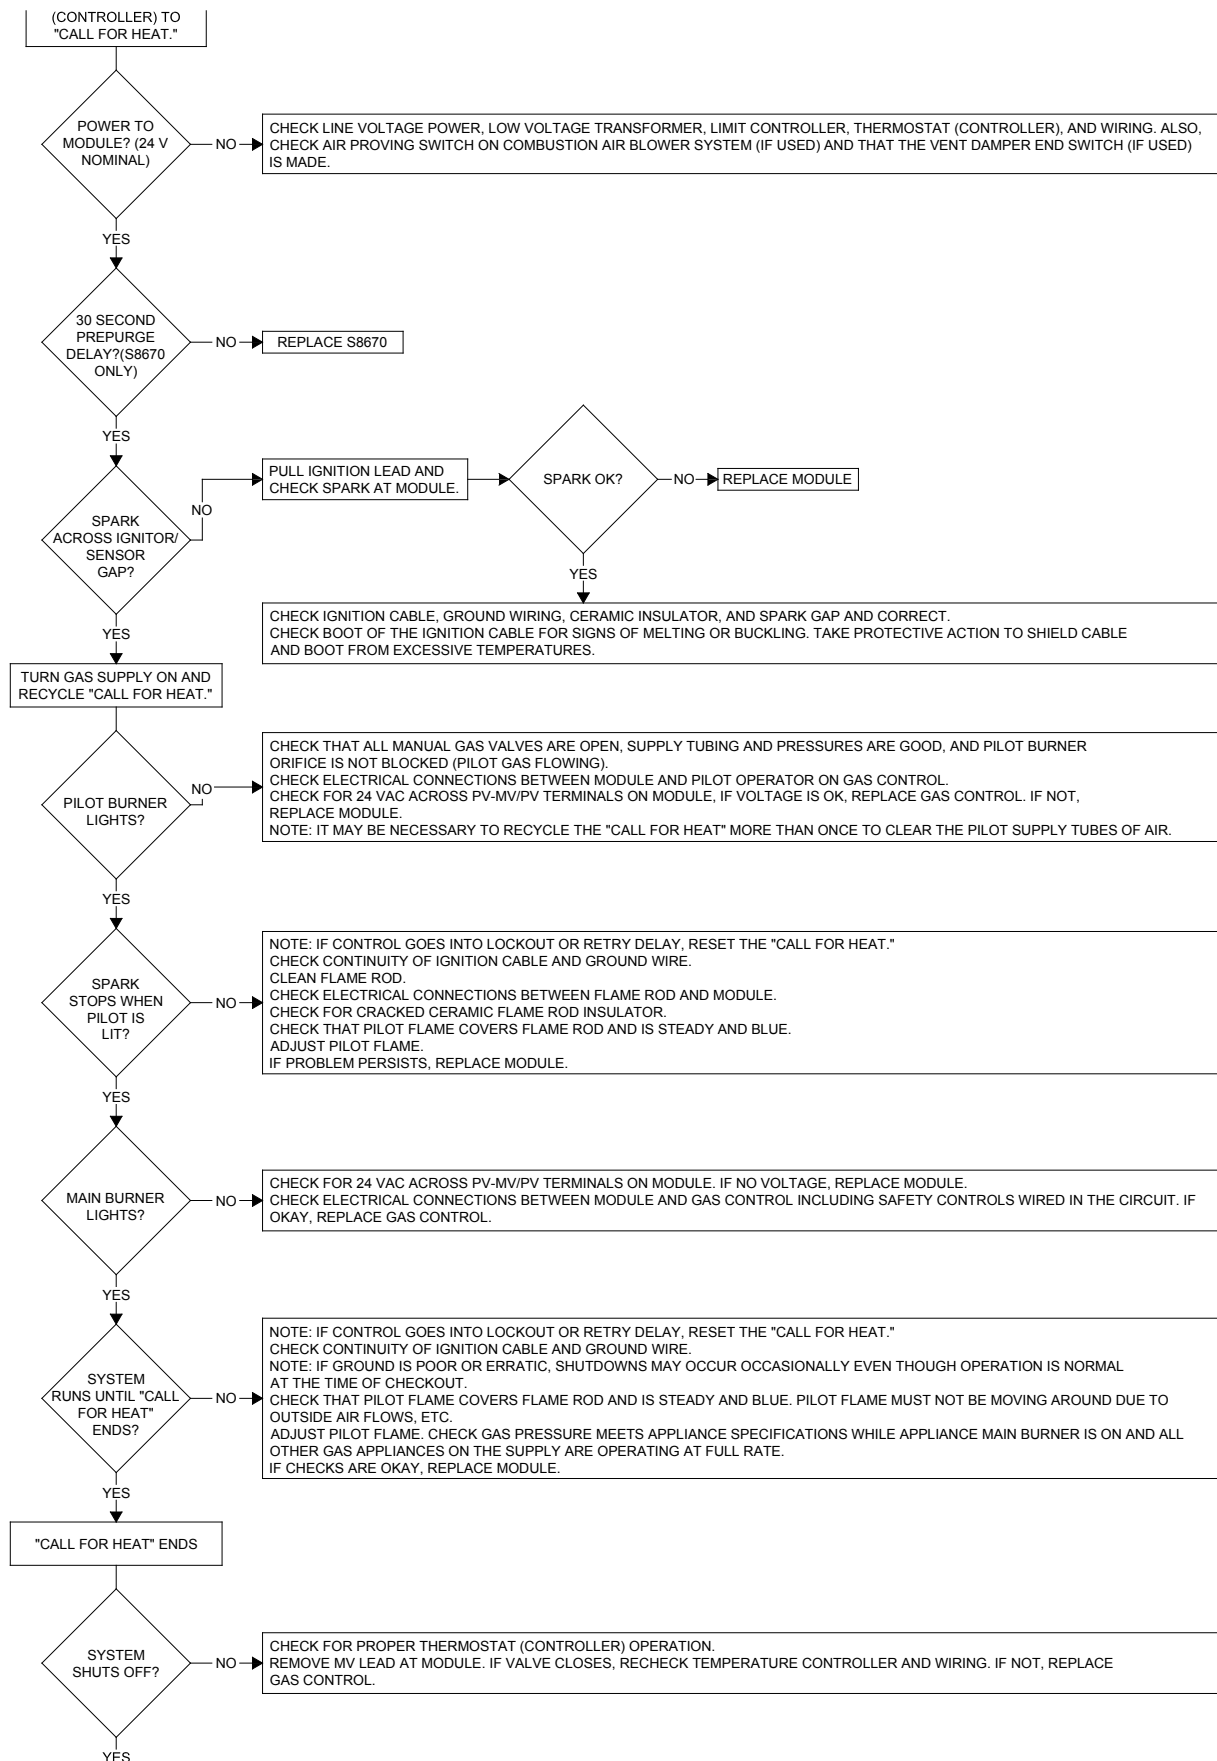

Figure 20: Honeywell Electronic Ignition Troubleshooting Guide
- e. If main burners do not light or if main burners light but system locks out, check the module ground wire and gas control as described in Figure 20 "Honeywell Electronic Ignition Troubleshooting Guide".